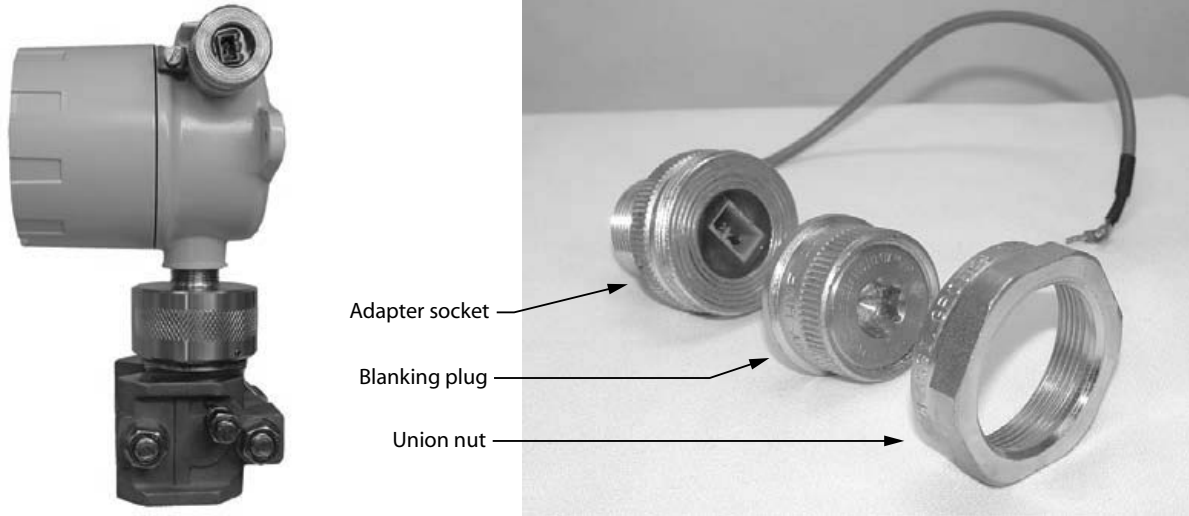

Figure A.7—Explosion-proof communications adapter
The explosion-proof communications adapter (Figure A.7, page A-4) provides an RS-485 connection for connecting a laptop or PC to the instrument without removing the instrument cover. When the adapter is ordered with a Scanner 2000, it is factory installed. It may be relocated to either conduit opening in the instrument housing.
1. Unscrew the union nut to expose the connector socket shown in Figure A.7, page A-4. A blanking plug will be removed with the union nut. Store the union nut and blanking plug in a safe place. (They will need to be reinstalled when the adapter is not in use.)